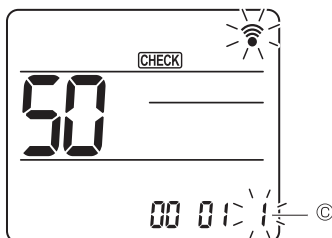

Fig. 11-4
Use the **↓** button to change the Setting number ③. (Fig. 11-4)